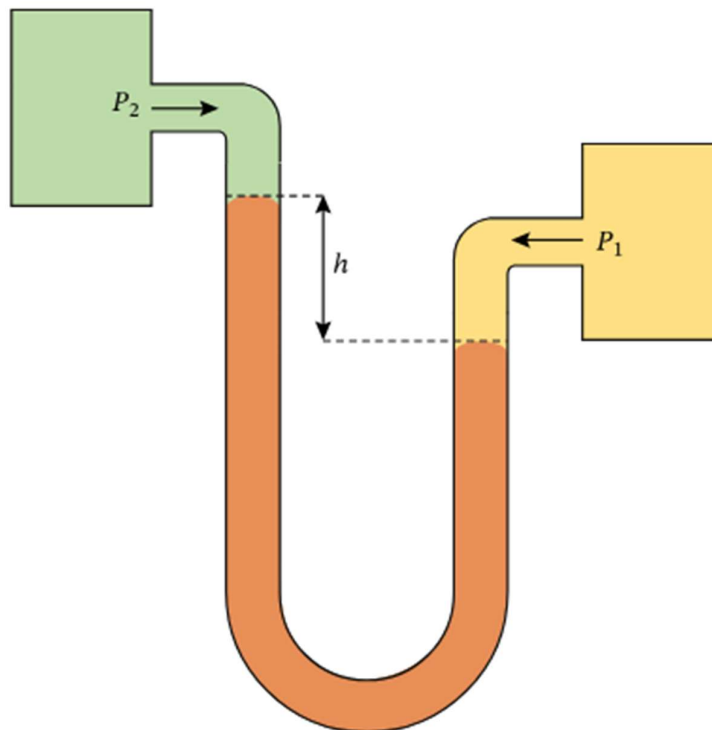

Figure 1.1: A differential manometer
- (a) Figure 1.1 below shows a liquid column manometer connected at opposite ends to two gas reservoirs. The pressures of the gas reservoirs are $p_1 = 123.3 \text{ kPa}$ and $p_2 = 110.1 \text{ kPa}$. The U-shaped tube contains an oil with a density of 1080 kg/m^3 . What is the vertical distance h between the tops of the oil columns?